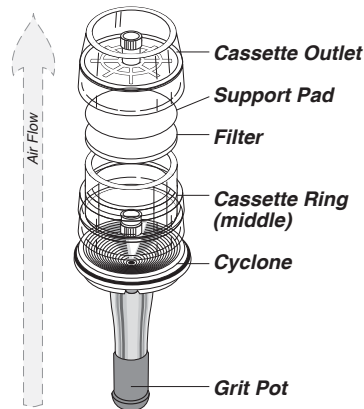

Figure 1.
2. Select a filter and support pad as specified in the sampling method. Insert cassette ring (middle) section into cassette outlet. *See Figure 1.*